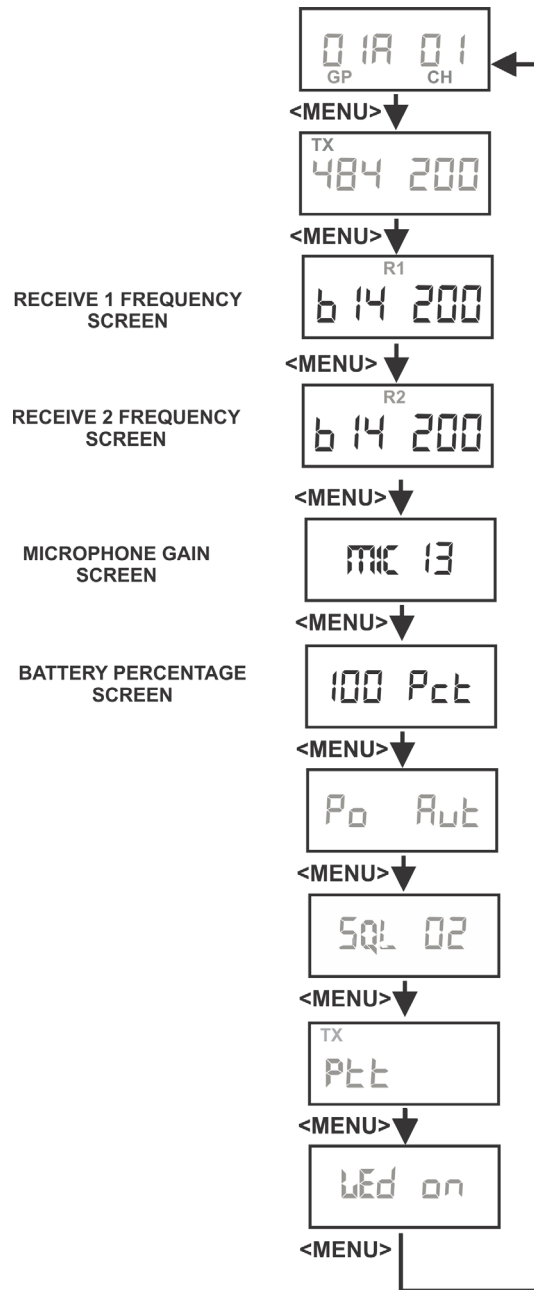

FIGURE 79.
1. Set the **unit** to the desired user-defined group and channels. *See Groups and Channels Instructions. The menu structure in Figure 79 indicates how to get to the receive frequency screen.*